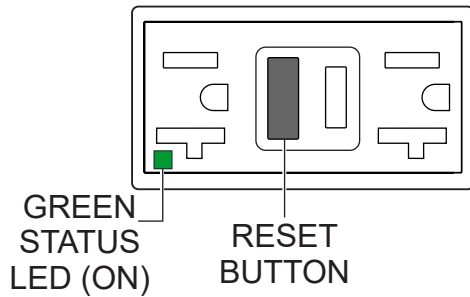

Figure 64. GFCI Receptacle (ON/Restore)
5. Press the **RESET button** (Figure 64) to restore power to the GFCI receptacle and verify that the status LED is **ON (GREEN)**.